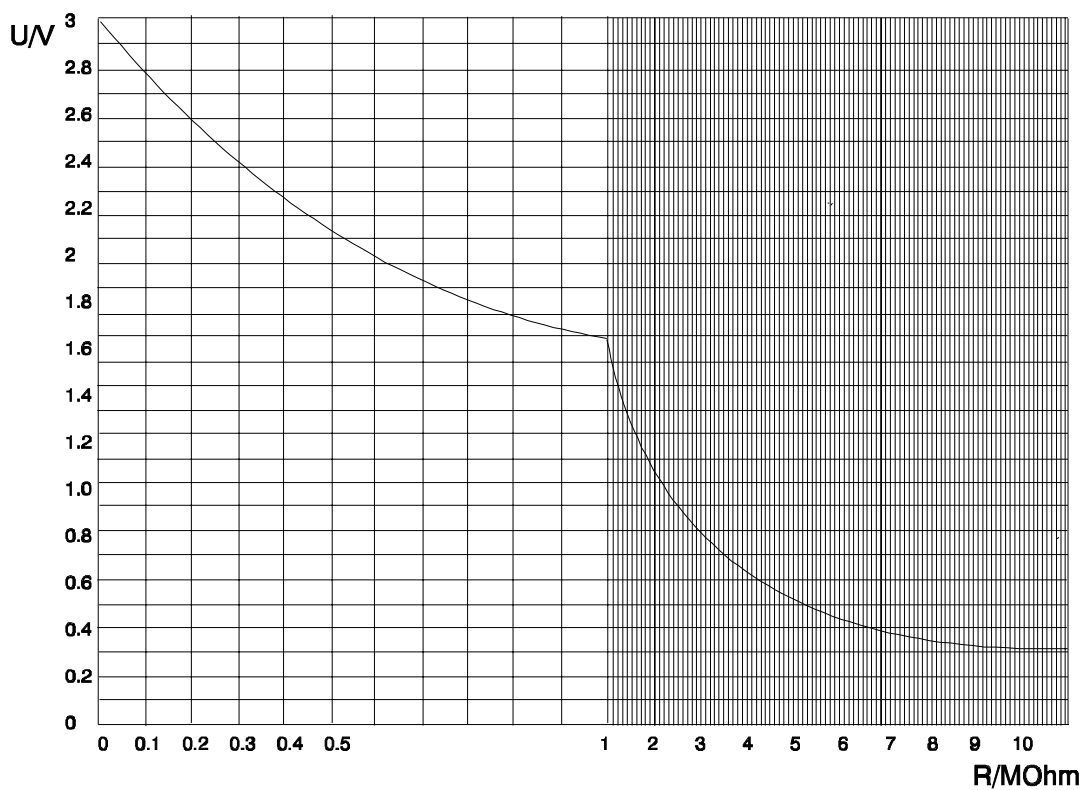

Figure 19. Reference voltage (VDC) as a function of the isolation resistance
- Desired ref values can be taken from figure 19.